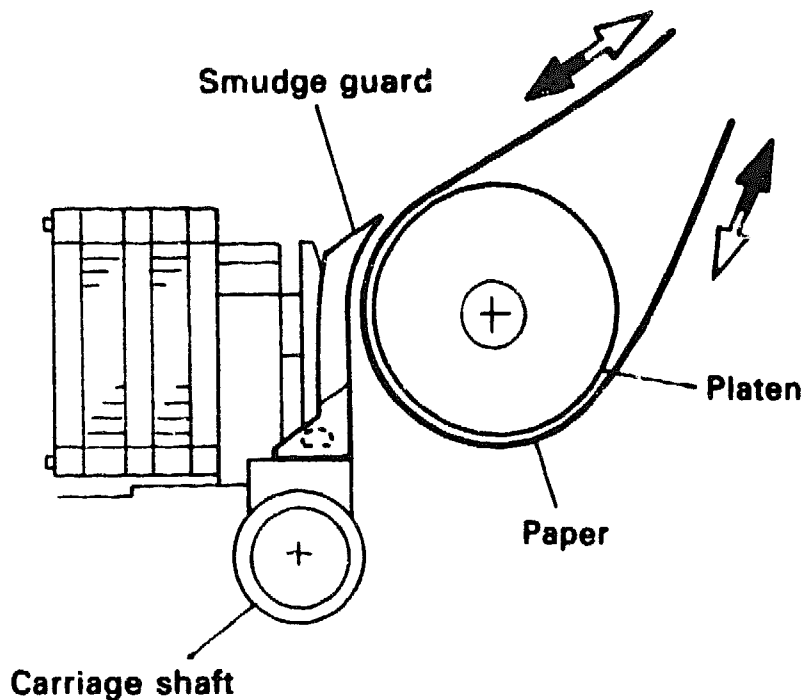

Figure 6-9 Adjusting the Smudge Guard (Cross Section)
- c. After the adjustment, insert a sheet of paper between the platen and Smudge guard to make sure that the adjustment is appropriate (Figure 6-9).